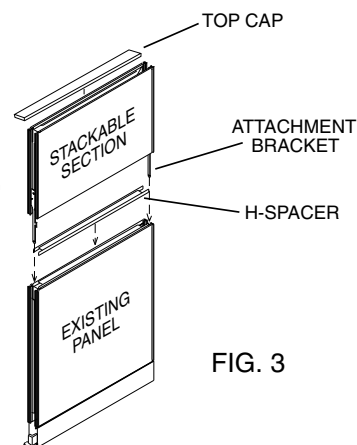

FIG. 3
5. To install the stackable panel section, first remove the plastic top cap from the existing panel. Then place the H-spacer on top of the existing panel as shown (Figure 3).
6. Hold the stackable panel section over the existing panel so the 1/2" wide leg of each attachment bracket lines up directly over the 1/2" wide groove on the trimrails of the existing panel (Figure 3).
7. Carefully lower the stackable section down onto the existing panel until it is fully seated on the H-spacer (Figure 3). There will be about a 1/8" gap the entire width of the panel, and the hook on each bracket will catch the trimrail of the existing panel, when the stackable section is fully seated.
10. Snap the top cap, from the existing panel, onto the stackable section (Figure 3).